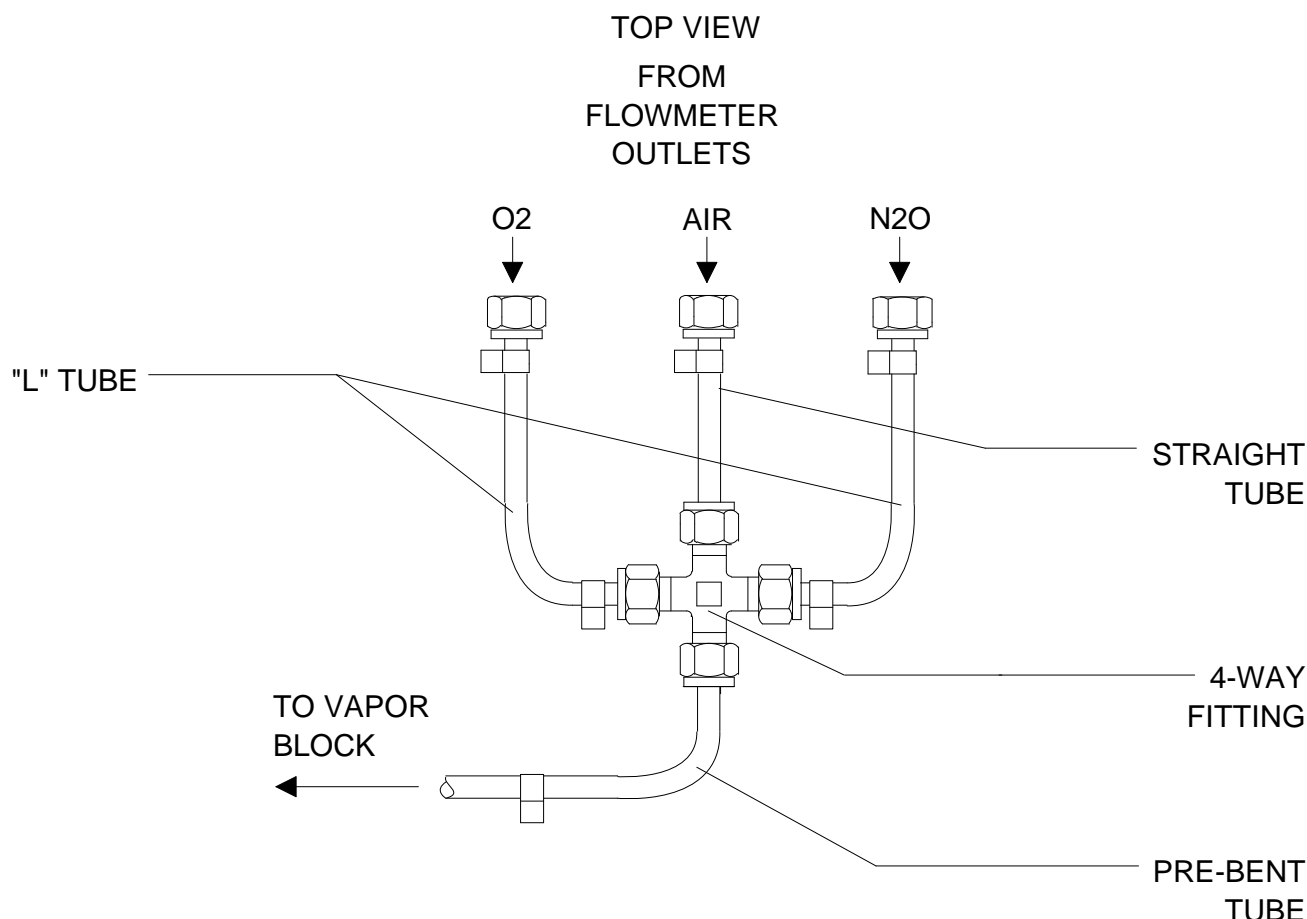

Figure 7: THREE-GAS MANIFOLD ASSEMBLY
38. Install a ¼ in.dia. "L" tube (P/N 4110837-004) between a 4-way fitting (P/N 4102772) and the N₂O flowmeter outlet as shown in Figure 7.
39. Install a ¼ in.dia. "L" tube (P/N 4110837-004) between the 4-way fitting and the O₂ flowmeter outlet as shown in Figure 7. Do not tighten the fittings. Install a O₂ label on each end of this tube.
40. Install a ¼ in.dia. straight tube (P/N 4110834-004) between the 4-way fitting and the air flowmeter outlet as shown in Figure 7. Install a AIR label on this tube. Tighten these connections and all those that were made in the previous two steps.
41. Install a ¼ in.dia. (P/N 4104204) pre-bent copper tube between the remaining port on the 4-way fitting and the vapor block inlet. Tighten the fittings and install a "MIX" label on this tube. A top view of the manifold arrangement is shown in Figure 7.